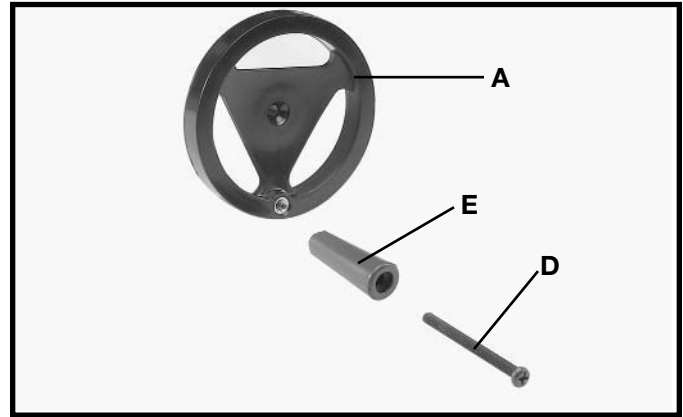

Fig. 5
1. Insert an M6x1x55mm pan head screw (D) Fig. 5, through handle (E) Fig. 5, and assemble handle (E) to handwheel (A) by threading screw (D) clockwise into handwheel.